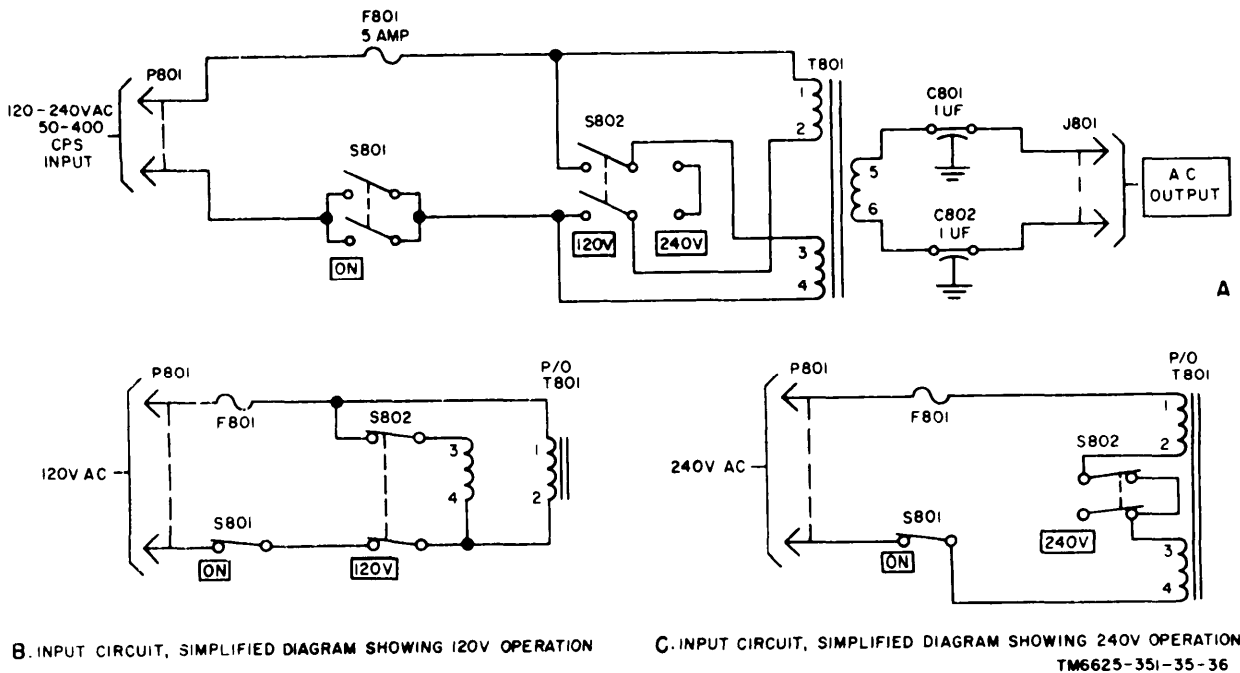

Figure 40. Transformer, Power, Isolation and Step-Down TF-248/G, schematic diagram.
(fig. 40)
S802 is placed at the 120V position, and power cord plug P801 is connected to a nominal 115-volt power source. Under this condition, the two primary windings of the power transformer are connected in parallel, as shown in B, figure 40. Fuse F801 protects the equipment from overload. The secondary output of transformer T801 is filtered by capacitors C801 and C802 (A, fig. 40). The filtered nominal 115-volt output is available at front-panel receptacle J801 for connection through Cable Assembly, Power, Electrical CX-6680/U to the main unit POWER receptacle.
b. 240V Position of S802. When the available power source for the test set is 220-250-volts, 50-400-cps, the external transformer functions as a stepdown transformer. Setting the 120V-240V switch to the 240V position connects the two primary windings of power transformer T801 in series, as shown in C, figure 40. The input voltage is reduced by a two-to-one ratio, and a nominal 115-volt output, filtered by capacitors C801 and C802, is available at receptacle J801 for energizing the test set.